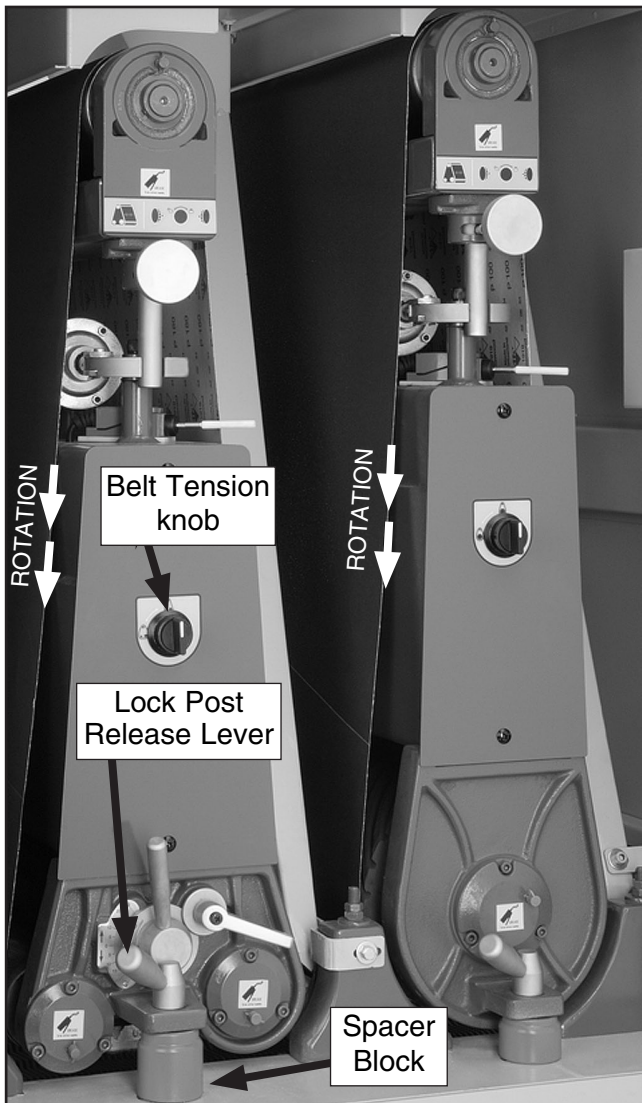

Figure 14. Components used when changing a sanding belt.
2. De-activate the belt tension piston by turning the belt tension knob (**Figure 14**).
3. Remove the lock post release lever (**Figure 14**) by turning it counterclockwise $\frac{1}{2}$ turn and pulling it up and out of the mounting hole.
4. Remove the spacer block (**Figure 14**).
5. Ensuring the rotation arrows on the sanding belt point the same direction as those shown in **Figure 14**, install the sanding belt by starting first on the upper roller, and then the lower roller.